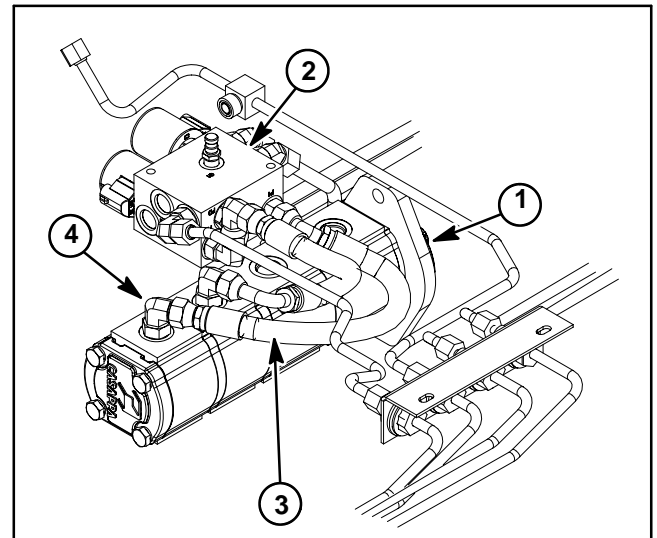

Figure 54
1. Make sure hydraulic oil is at normal operating temperature by operating the machine under load for approximately ten (10) minutes. Make sure the hydraulic tank is full.
3. With the engine off and cutting decks lowered, disconnect the hydraulic hose from the 90° fitting in the last gear pump section which supplies the engine cooling fan circuit (Fig. 54).